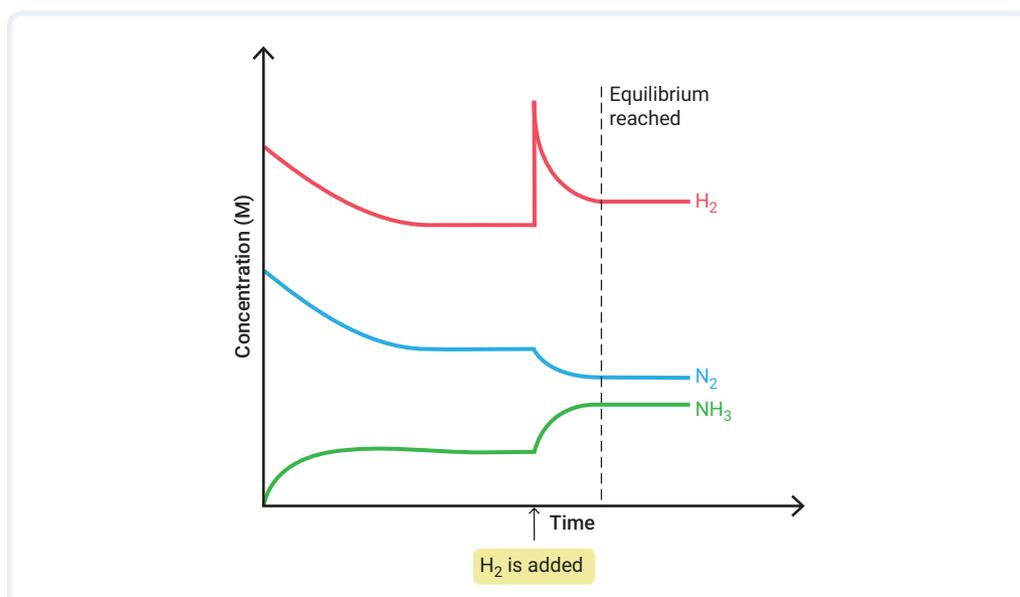

FIGURE 2.4.2 The effect of adding H_2 at equilibrium for the reaction involving the production of ammonia
- Therefore, the reaction will shift to the right, the concentrations of hydrogen gas and nitrogen gas will decrease, while the concentration of ammonia will increase (demonstrated in **Figure 2.4.2**).